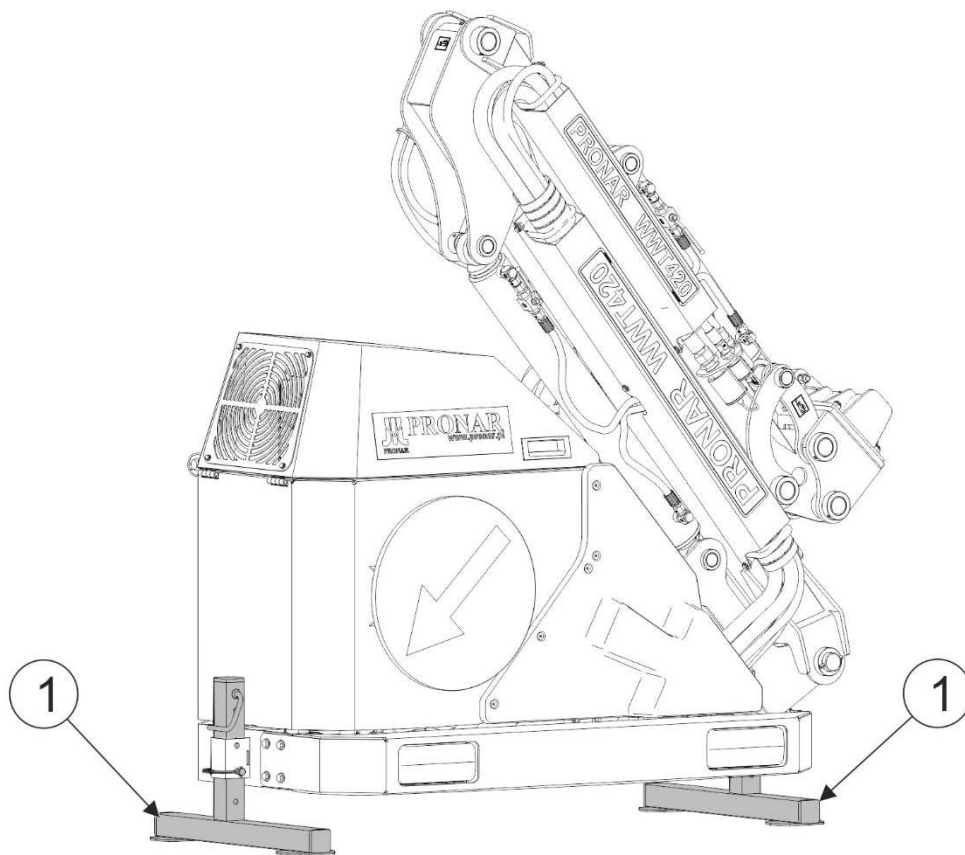

FIGURE 1.2 Position of the multifunction arm during loading.
During loading and transportation the multifunction arm should stand on support feet (1) (FIGURE 1.2) extended and locked on both sides of the arm at the same height.